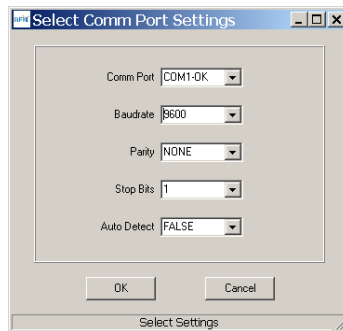

Figure 8.2
2. Click on *Connect* to open the *Select Comm Port Settings* dialog box, as shown in Figure 8.2. If necessary, set the baud rate to 9600 bps. Set the *CommPort* to match the serial port connected to the Base, either the hardware port or the USB virtual serial port. Then click *OK* to activate the connection.